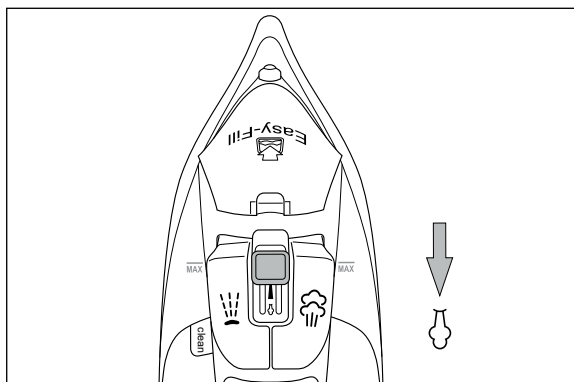

Fig. 1
- 3) Slide the steam control 3 all the way down to position ⌵ (more steam) (see Fig. 1).